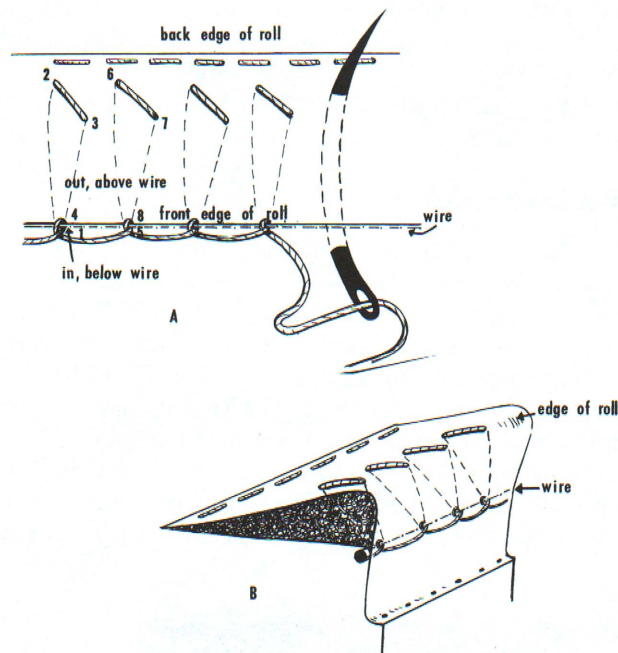

Fig. 28—Stitch for roll with wire edge.
**Wire-Edge Seat**—Sew a wire-edge seat as shown in Fig. 28.